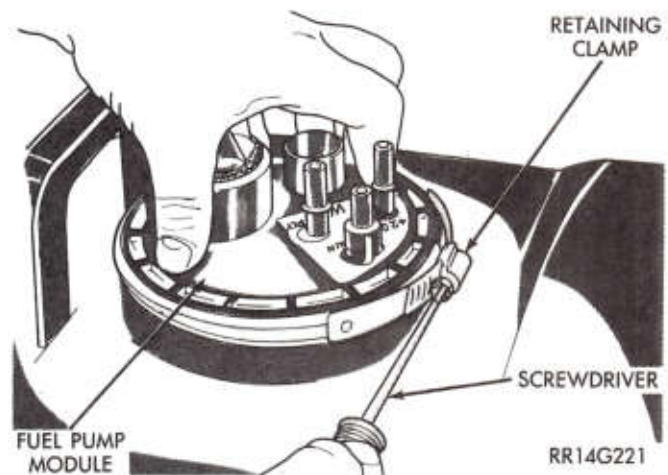

Fig. 10—Servicing Fuel Pump
(1) Hold the fuel pump module down while loosening the holding clamp. (It is under a slight spring pressure (Fig. 10).
(2) Once clamp is loosened. Release the module and it will spring up from its position.
(3) Remove module from tank.